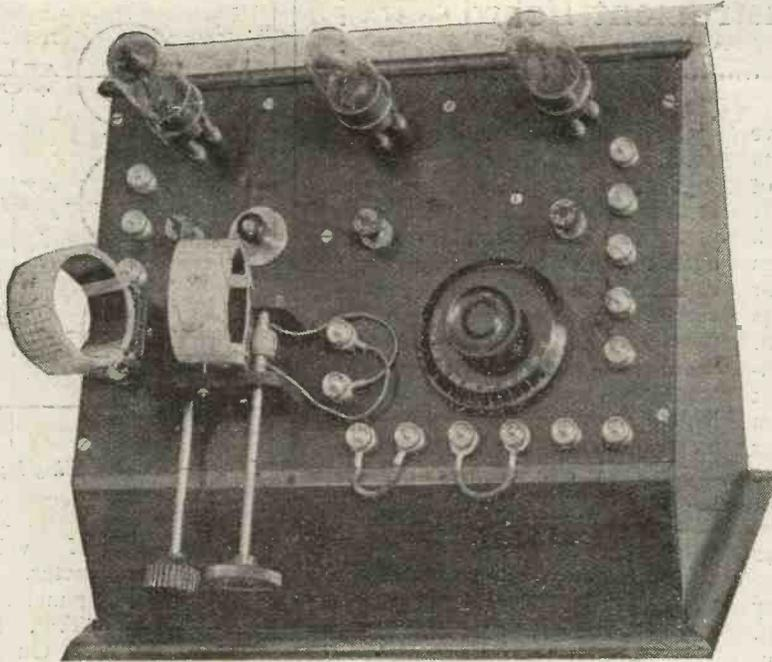

Fig. 1.—The complete instrument.
**M**ANY amateurs favour a set in which valves may be switched in or out of circuit, thus enabling the number of valves in use to be regulated easily, according to the strength of the received signal. The present set is suitable for the reception of spark, continuous wave, or telephony signals, and one, two, or three valves may be used at a time, while reaction is possible in each case. The finished set is seen in the photograph Fig. 1, and may be used either as a single-valve set alone, or as a valve detector, with one or two stages of note magnification.